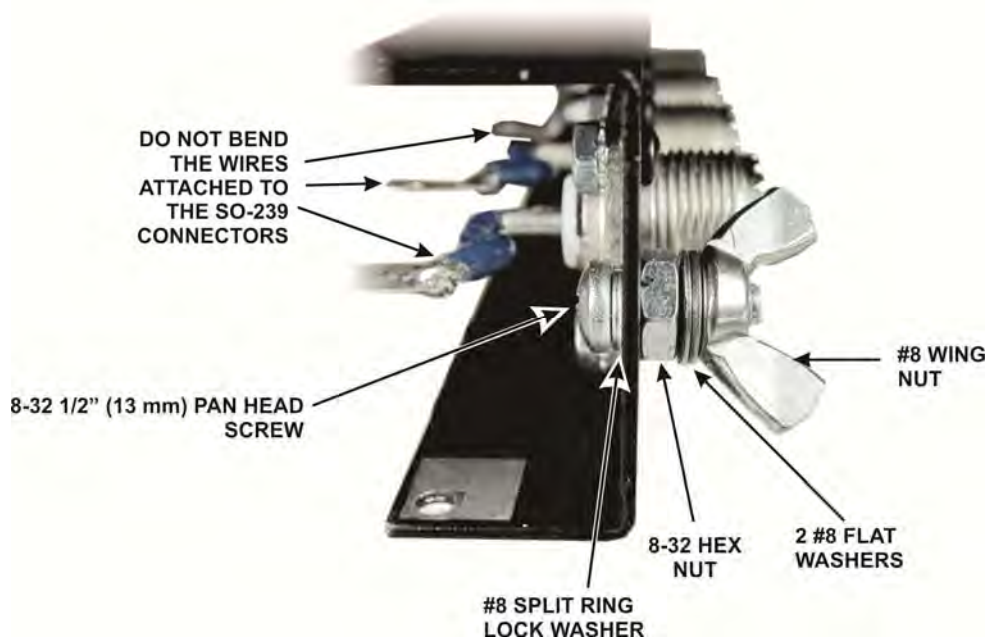

Figure 19. Installing the Ground Terminal.
□ Mount the ground terminal at the end of the rear panel next to the ANT 3 connector as shown in Figure 19. Install the screw, lock washer and nut first and secure the nut so the screw cannot turn. Then add the two flat washers and the wing nut.